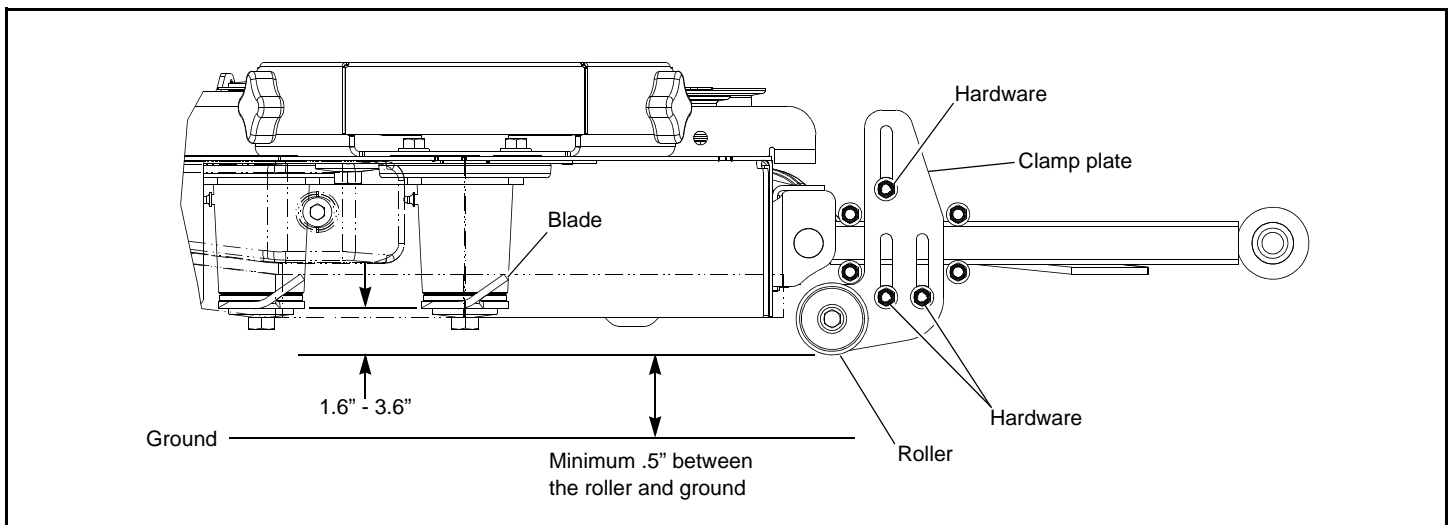

FIG. 3
8. **Stripe roller height adjustment** – The stripe roller can be adjusted up and down depending upon the pressure desired for the grass being cut. The roller height adjustment range is 1.6" to 3.6" below the cutting height. It is best to maintain at least .5" of clearance between the roller and the ground to prevent undue wear on the roller. Fig. 3
To adjust the roller height, loosen the hardware on the clamp plates and slide the stripe roller up or down until the desired height is attained and then retighten the hardware. Fig. 3